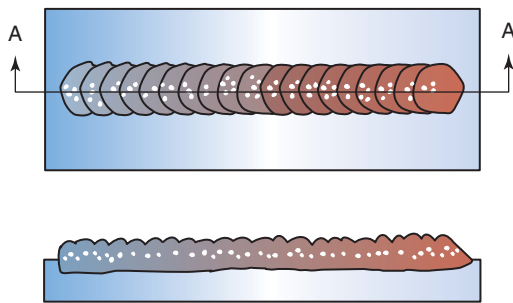

Figure 9.3 Linear porosity
- Linear porosity is most frequently caused by contamination within the joint, root, or interbead boundaries, Figure 9.3.